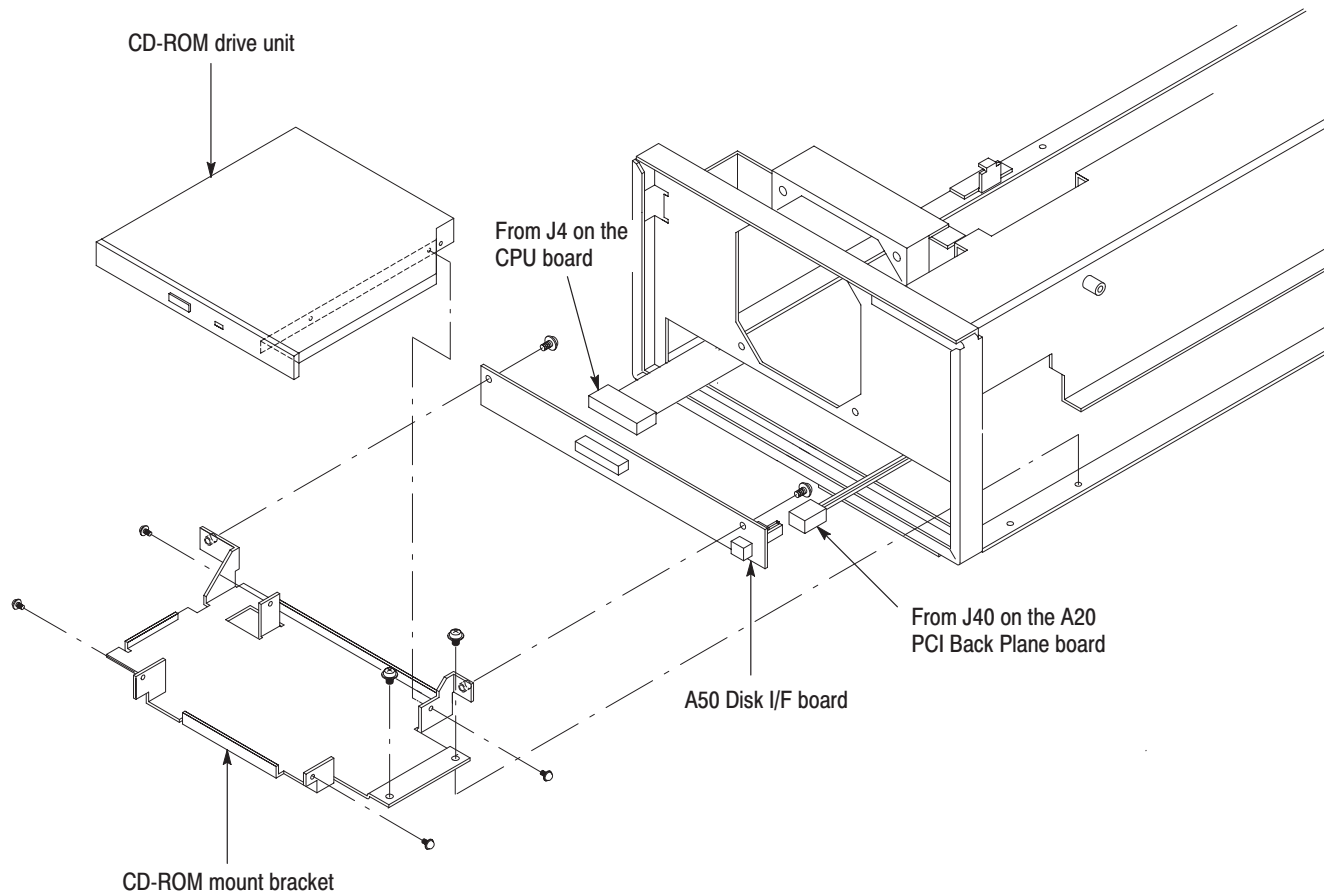

Figure 6-11: CD-ROM drive removal
3. *Remove the CD-ROM drive:* See Figure 6-11.